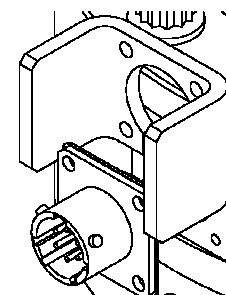

Figure 8 - Slide the Connector Protector (54823-02) Behind the Connector
3. Slide the connector protector (54823-02) behind the connector as shown in Figure 8.